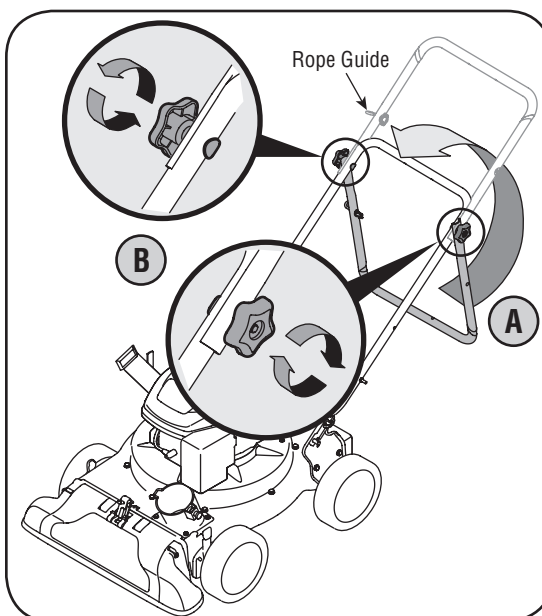

Figure 3-3
2. a. Unfold the upper handle until it aligns with lower handle. Make sure the rope guide is on the right side of upper handle. See Figure 3-3.
- b. Secure the two handles by tightening the handle knobs (*carriage bolts must be seated properly into the handle*). See Figure 3-3.